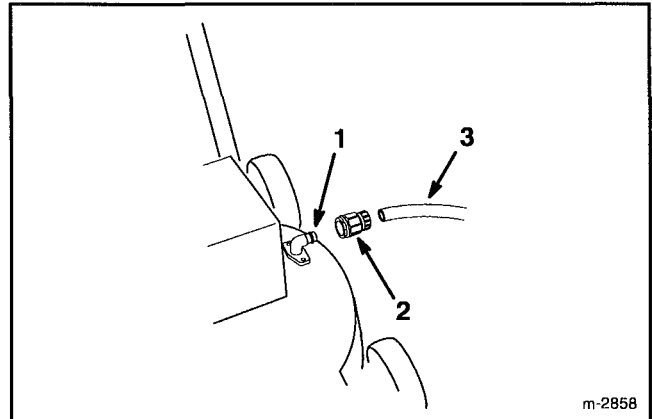

Figure 33
2. Attach a quick disconnect coupling (sold separately) to the end of the garden hose. Attach coupling to mower washout fitting and turn water on high (Fig. 33).